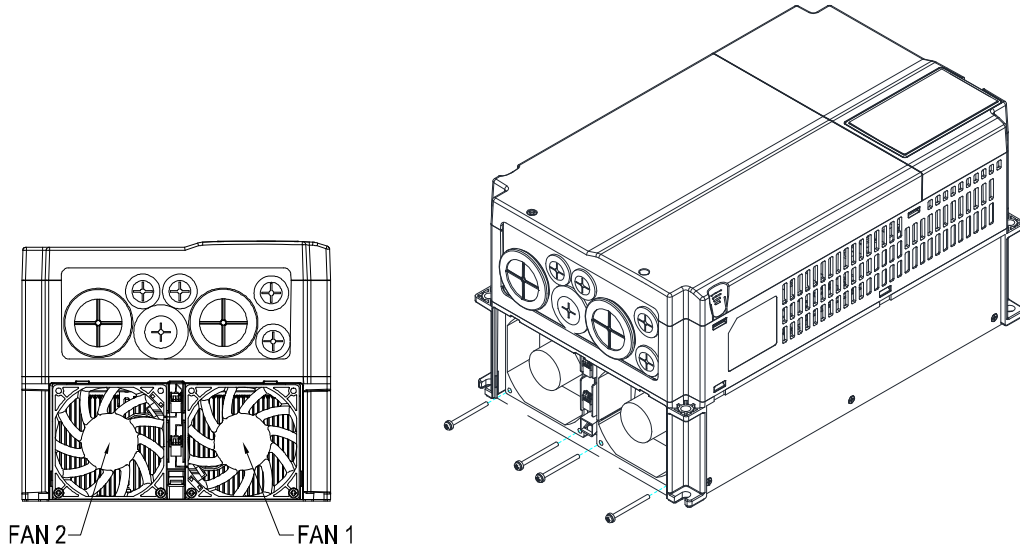

Figure 2
- (As shown in Figure 2), remove the power connector, loosen the screw and remove the fan kit. When installing the fan kit, have the label on the fan kit facing inside of the motor drive. Screw's torque force: 10~12 kg-cm / [8.7~10.4 lb-in.] / [1.0~1.2 Nm]